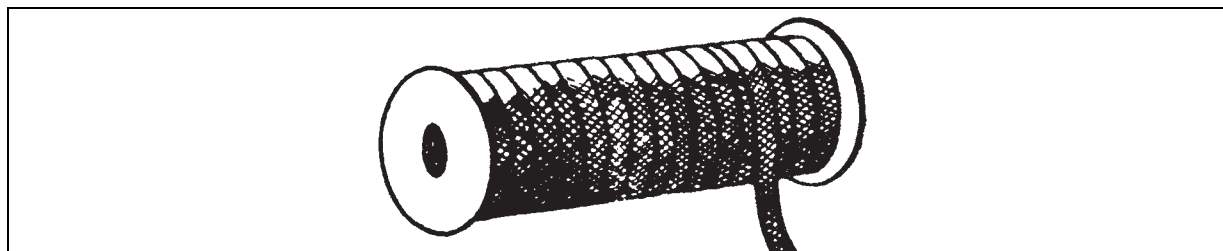

Figure 8-31. 1/4-Inch Cotton Webbing
- **Cotton Webbing.** Cotton webbing is used as an alternative to pressure-sensitive tape. The 1/4-inch wide Type I cotton webbing (figure 8-31) is rated at 80 pounds breaking strength. Cotton webbing is also used to combine and hold the legs of the cargo sling on top of the load after the sling legs are attached. Once tension is applied to the sling, the webbing will break, freeing the sling legs for normal weight-carrying configuration. This breakaway technique reduces the risk of the sling legs fouling on the load during hookup and lift-off. The distance between breakaway ties is approximately 3 feet.